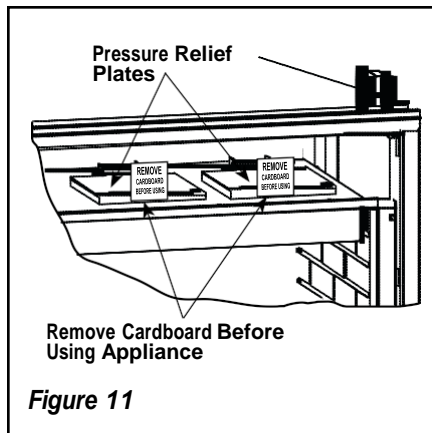

Figure 11
2. Remove Front Face Assembly (refer to Figure 11) by lifting and pulling straight out from the fireplace.